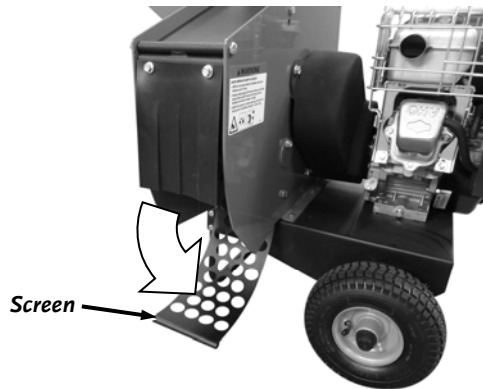

Figure 25
2. Rotate the Screen down to gain access to the cutting chamber (**Figure 25**).